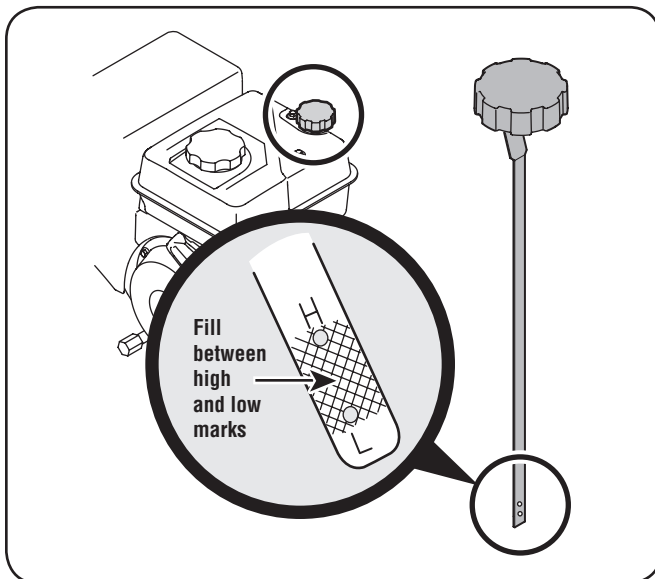

Figure 3-3
- Keep oil level between the high (H) and low (L) marks on dipstick. See Fig. 3-3.
1. Remove the oil filler cap/dipstick and wipe the dipstick clean. See Fig. 3-3.
3. Remove the oil filler cap/dipstick. If the level is low, slowly add oil until oil level registers between high (H) and low (L), Fig. 3-3.
**NOTE:** DO NOT allow oil level to fall below the low (L) mark on the dipstick. Doing so may result in equipment malfunctions or damage.